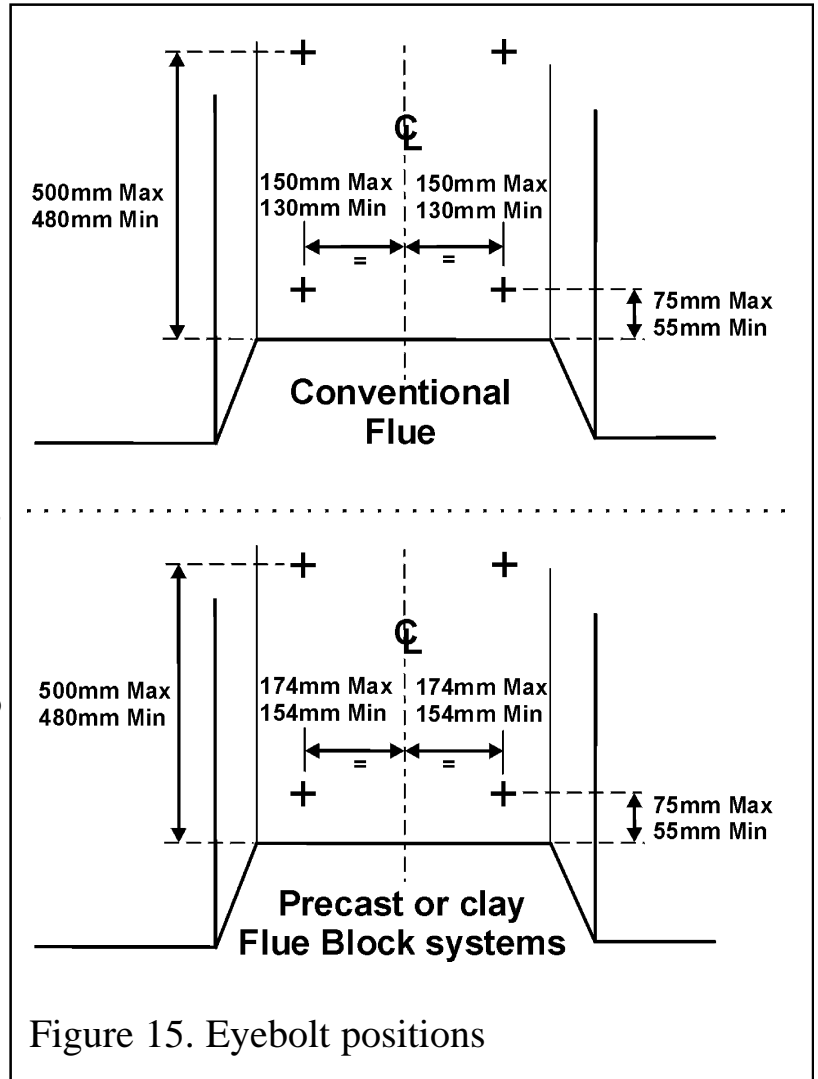

Figure 15. Eyebolt positions
2. Drill four holes in the rear wall of the fireplace for the fibre plugs. The holes should be drilled within the range of positions shown in figure 15 using a no.12 masonry drill. The holes should be equidistant each side of the centre line of the fireplace to ensure that the appliance finishes centrally in the opening when tension is applied to the cables.